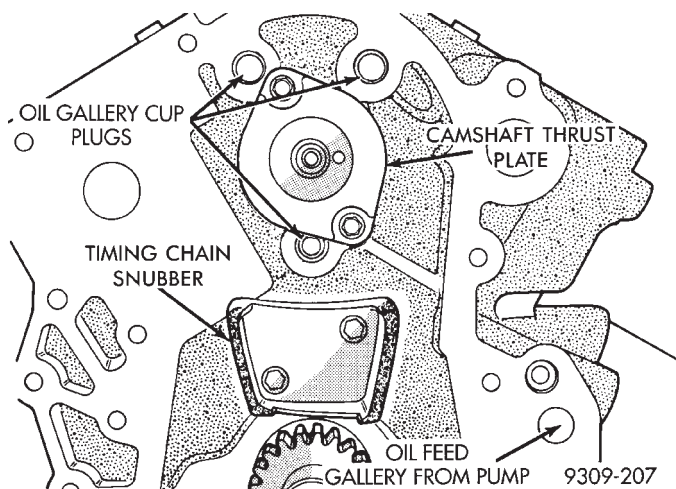

Fig. 9 Camshaft Thrust Plate
- (1) Remove rocker arm and shaft assemblies.
- (2) Remove push rods and tappets; identify so each part will be replaced in its original location.
- (3) Remove camshaft thrust plate (Fig. 9).
- (4) Install a long bolt into front of camshaft to facilitate removal of the camshaft; remove camshaft, being careful not to damage cam bearing with the cam lobes.